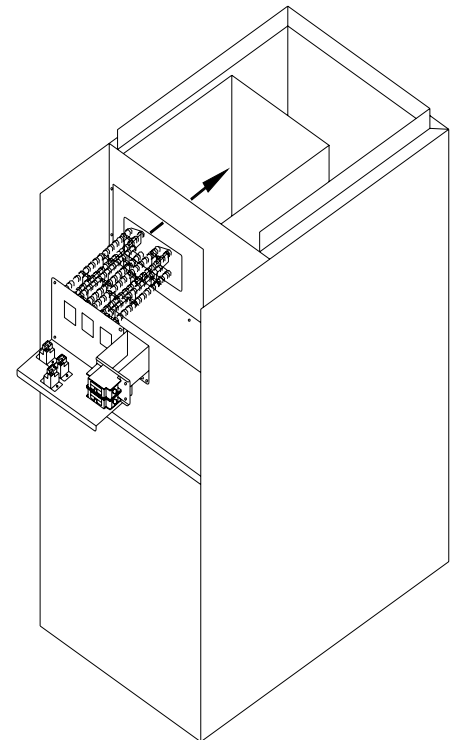

FIG. 1 SLIDE HEATER INTO BLOWER SECTION AND SECURE WITH (3) SCREWS
6. Carefully slide the heater assembly (fig. 1) into the blower section through the access opening. Be sure the heater assembly or elements do not rub or scrape against the metal edges or components in the electrical box. Secure the heater assembly into place with screws provided (If access to screw holes is obstructed, make use of the additional heater assembly holes with self tap screws).